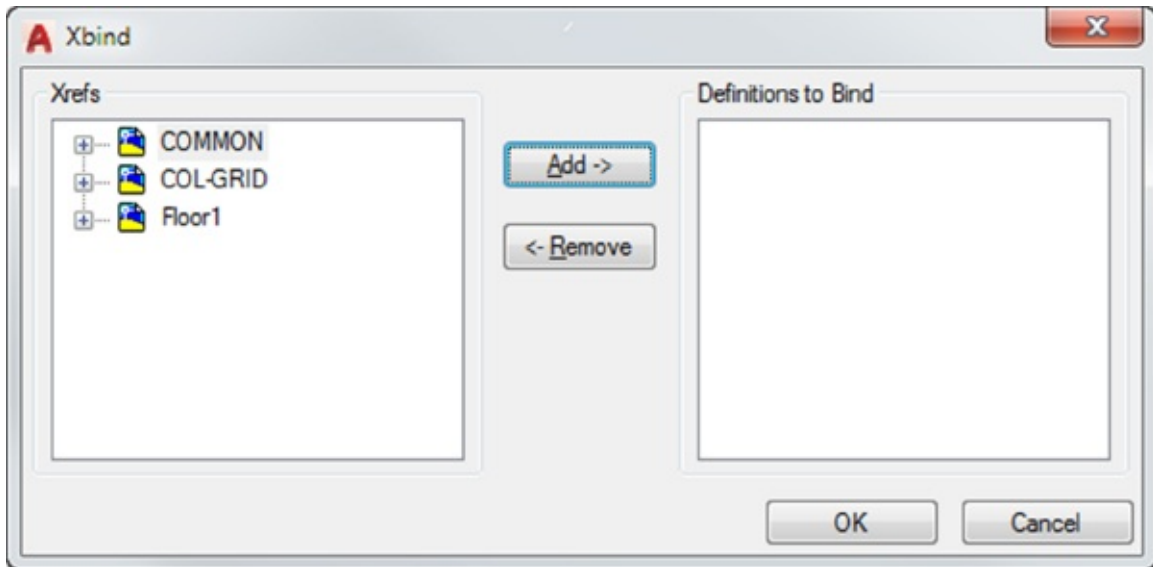

FIGURE 14.11 The Xbind dialog box
2. Enter **XB**↵ to open the Xbind dialog box. You see a listing of the current Xrefs. Each item shows a plus sign to the left. This list box follows the Microsoft Windows format for expandable lists, much like the tree view in Windows File Explorer (see Figure 14.11).